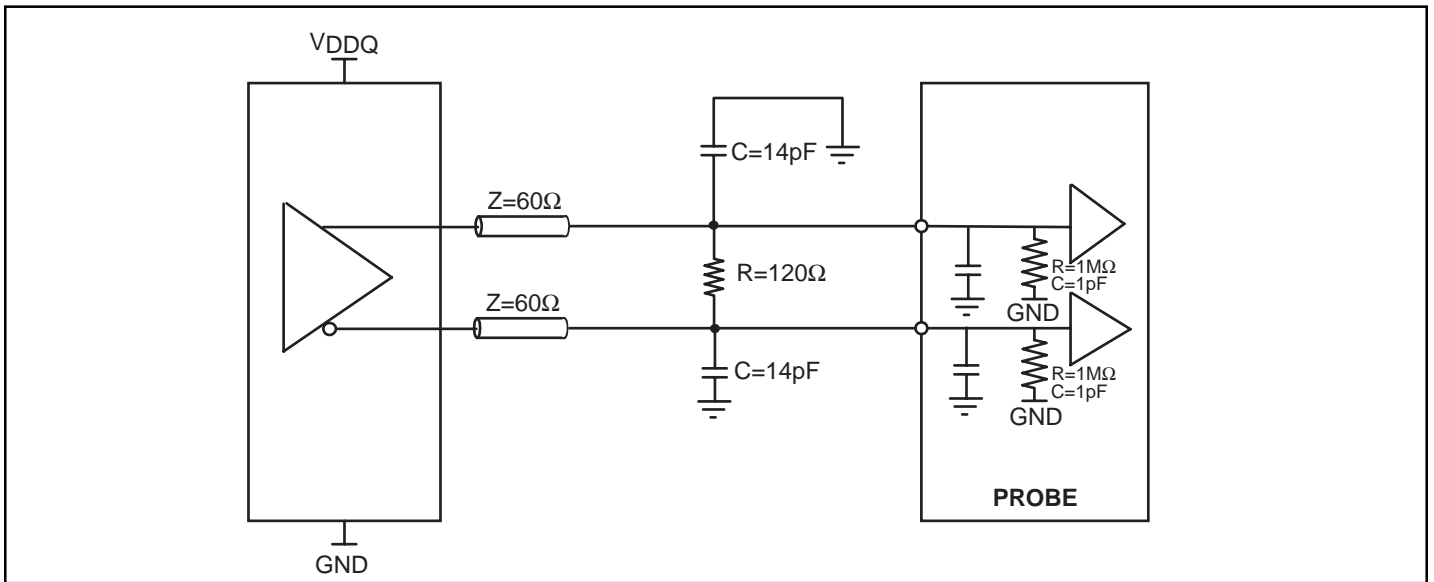

Figure 2. Output Load Test Circuit 1
3. VOX specified at the DRAM clock input or the test load in Figure 2.